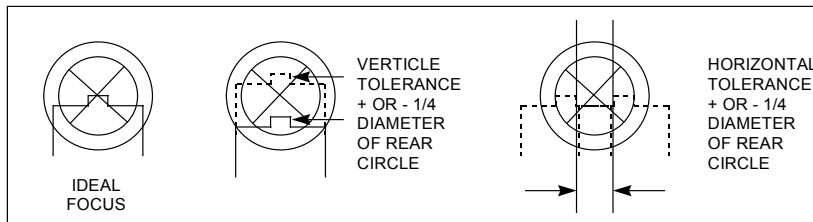

Figure 3-4
- c. Sight through the sighting marks on the lens. The focus fixture should appear centered in the sight marks, as shown in Figure 3-4.